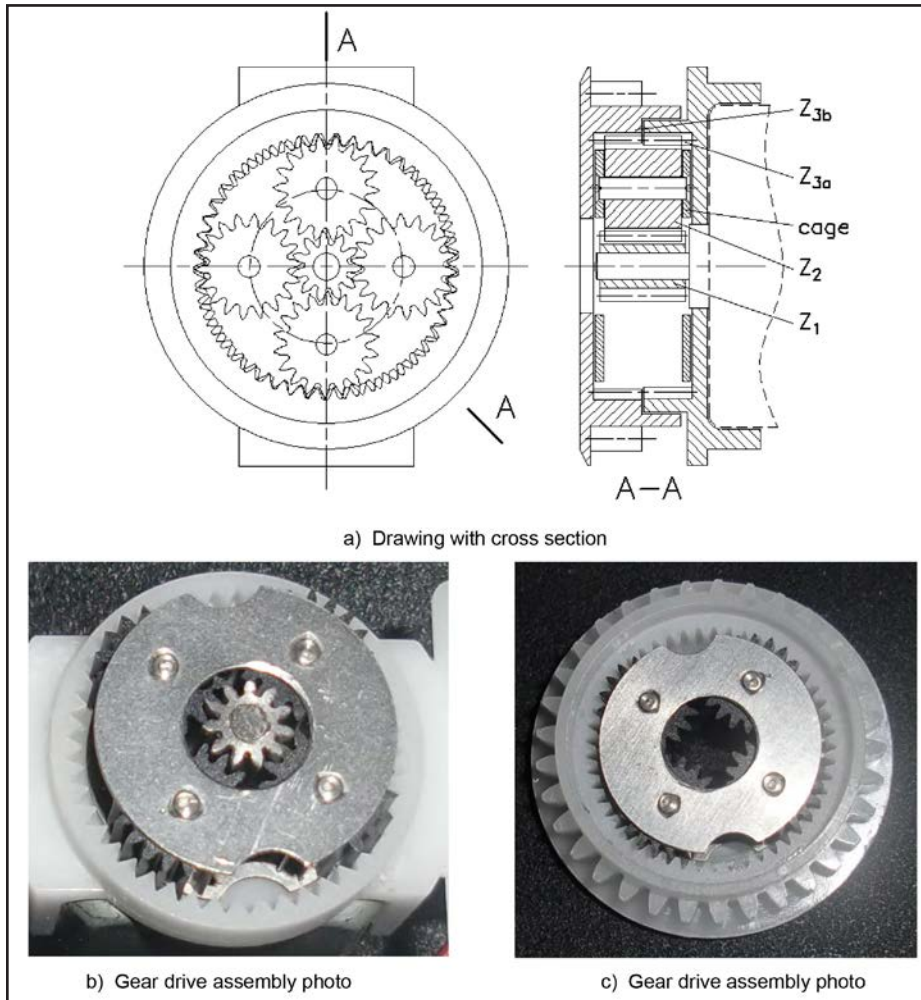

Figure 3 Differential-planetary gear actuator.
2). However, the assembly of such gear drives does not require certain angular positioning of planet gears, and their manufacturing cost is significantly lower for drives with the compound planet gears. An example of the differential-planetary gear actuator with common planet gears is shown in Figure 3.